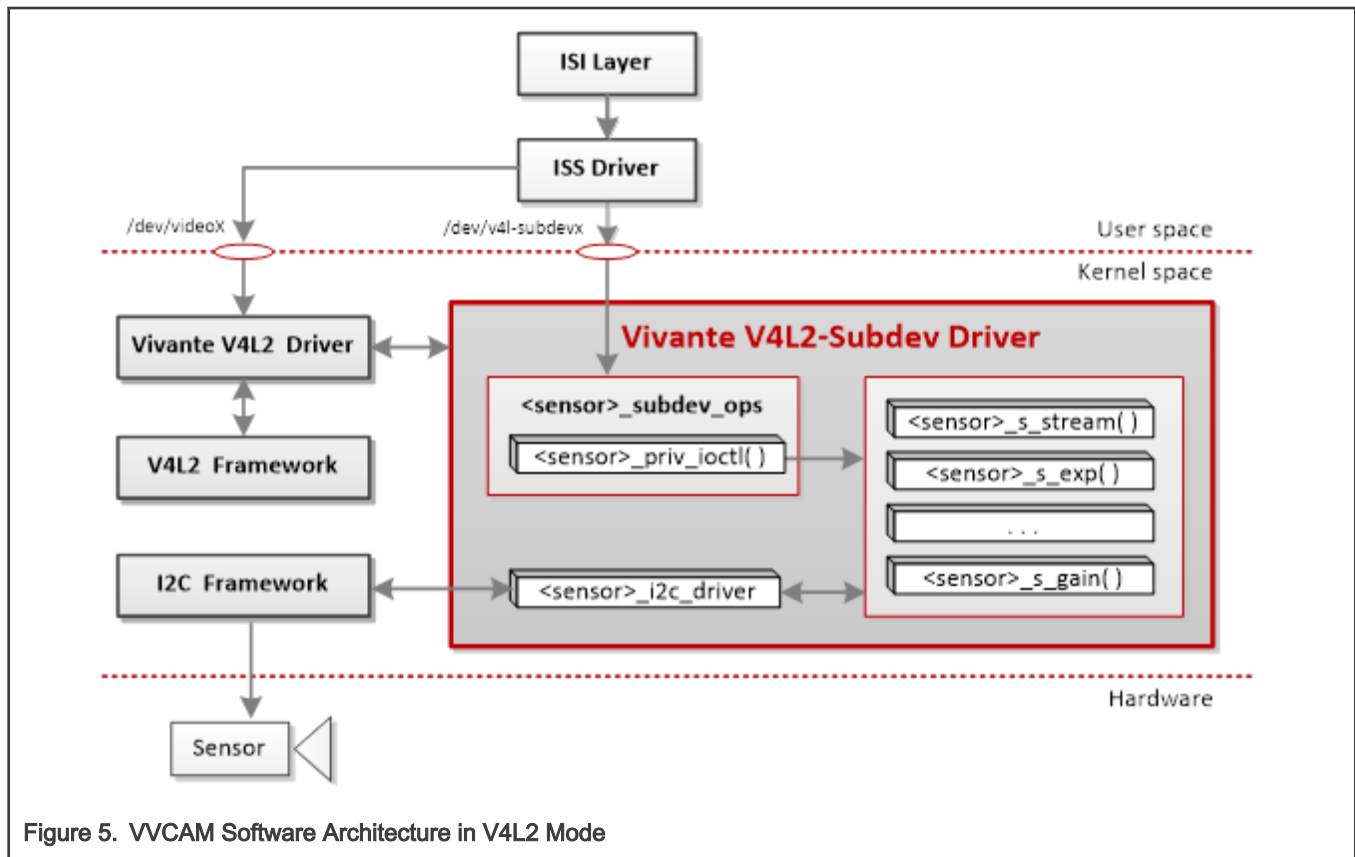

Figure 5. VVCAM Software Architecture in V4L2 Mode
step 5) The V4L2 architecture of sensor driver is shown in Figure 5. To specify a camera sensor, the sensor driver must be added by developers in file `vvcam/v4l2/sensor/<sensor>/<sensor>_xxx.c` where `<sensor>` is the name of the sensor (for example, OV2775). Developers can refer to the file `ov2775_mipi_v3.c` to add their own sensors.